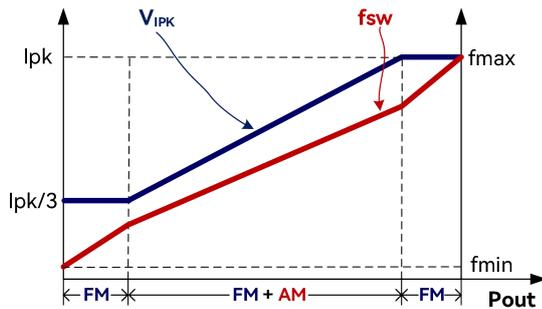

Fig.2
To meet the tight requirement of averaged system efficiency and no load power consumption, a hybrid of frequency modulation (FM) and amplitude modulation (AM) is adopted in KPE3265X which is shown in the Fig 2.